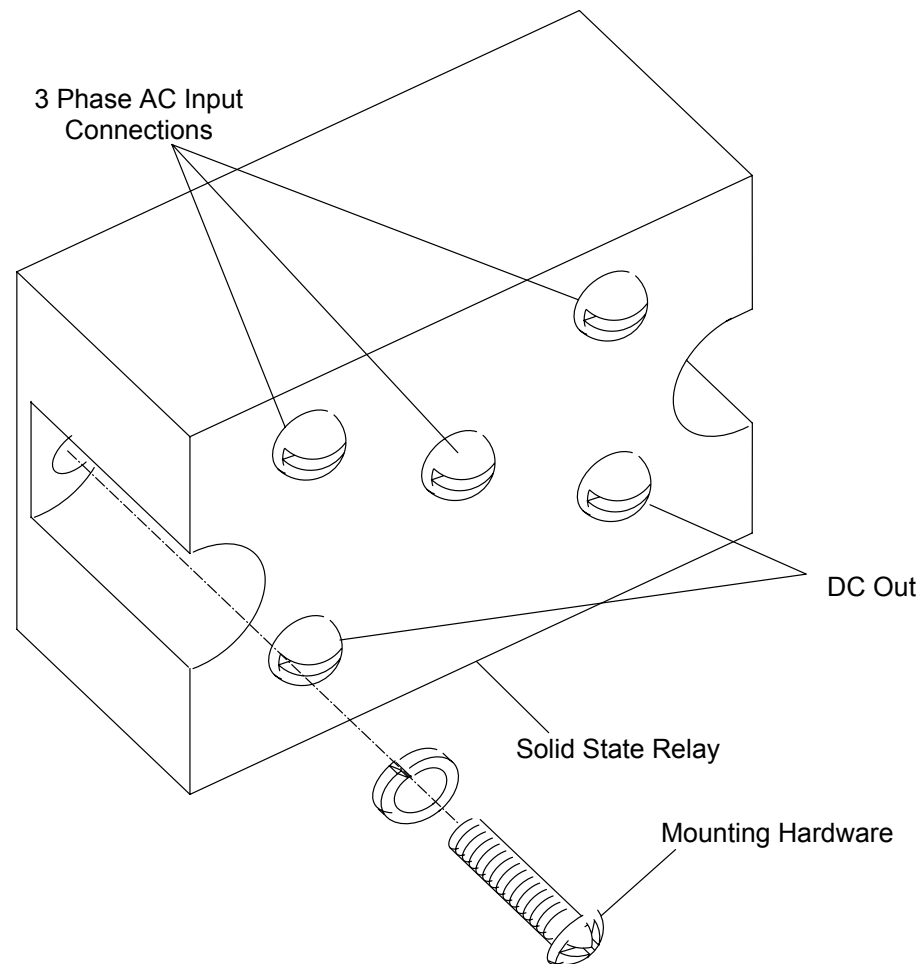

FIGURE 288 Bridge Rectifier
3. Tag and remove the 5 wires connected to the Bridge Rectifier terminals (three AC input and two DC output). See Figure 288.